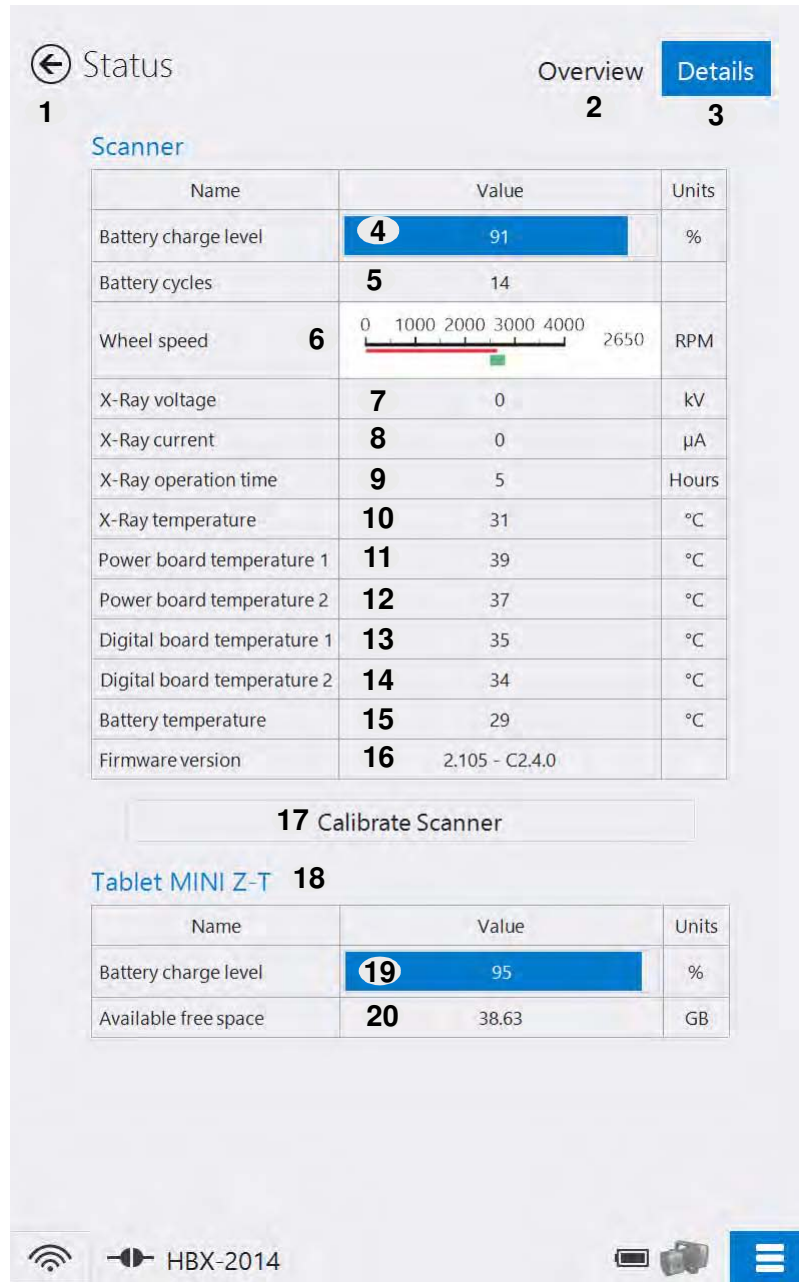

Figure 5-10: Status Details Mode Screen Layout. The buttons and parameters are described in Table 5-10.
- The **Status Details** mode screen (Figure 5-10) displays the key operational parameters, updating them in real time, and allows setting of some of them.
The Status Details mode screen (Figure 5-10) displays the current operational status of the key system parameters. Tap the Status button  to return to the previous (non-Status) screen.
Table 5-10: Status Details Mode Screen Description (refer to Figure 5-10)